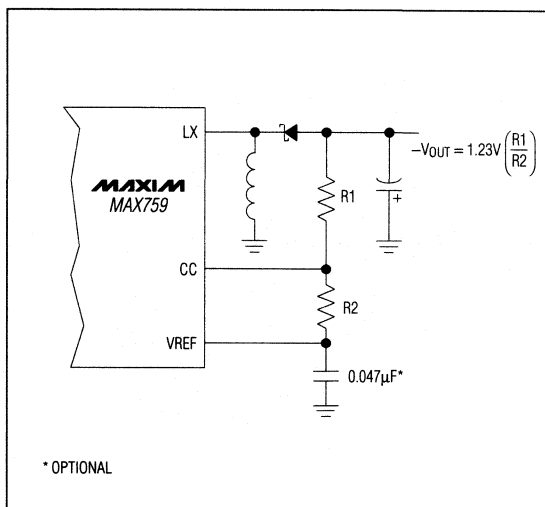

Figure 5. MAX759 Adjustable Output Voltage
**Note 2:** MAX759 output voltage tests are performed using an external resistor divider to set the output voltage to -5V (see Figure 5,  $R_1 = 15k\Omega$ ,  $R_2 = 3.69k\Omega$ ).
Adjust the MAX759's output voltage from 0V to -15V by selecting the appropriate external resistor divider (Figure 5). Output voltages beyond -15V require a transformer to protect the power MOSFET from overvoltage. With R2 feedback resistor (5k $\Omega$  to 15k $\Omega$ ), a compensation capacitor (typically 10nF) from the output to CC gives best transient-response characteristics. Be careful to observe the *Absolute Maximum Ratings* on the difference between input voltage and output voltage.